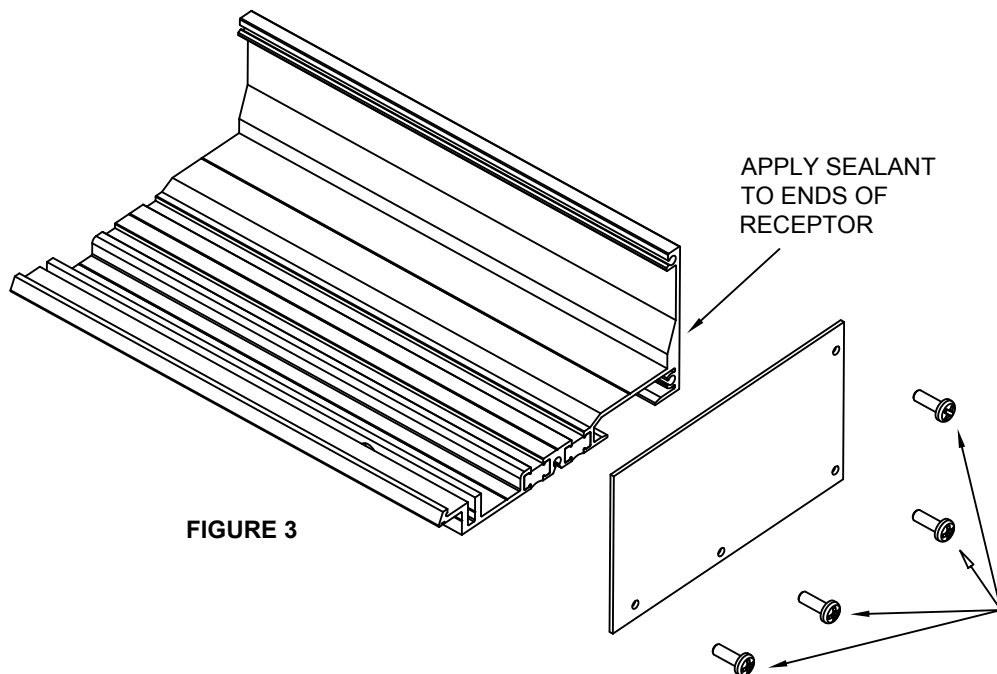

FIGURE 3
- STEP D: Apply sealant to ends of flashing. (Figure 3)